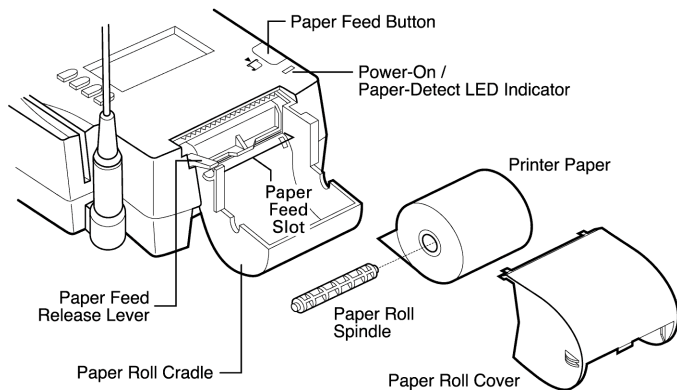

Figure 15 Thermal Printer Features
A fast, quiet thermal printer is built in to the Omni 3200M. Because the printer receives power directly from the terminal, there are no additional cables to connect (see Figure 15).
4. Holding the roll in your hand with the paper feeding from the *bottom* of the roll, slowly insert the leading end into the paper feed slot (see Figure 15).
Note: The integrated printer has a paper feed release lever that lets you manually adjust the position of the paper you have loaded into the printer (see Figure 15). To do this, lift up on the small red lever located on the right side of the paper roll cradle until it snaps into its “up” position. You can now freely move the paper up and down through the feed mechanism. When the paper is in the correct position, lower the lever until it snaps into its “down” position.
1. Remove the paper roll cover. Then, lift up on the small red lever located on right side of the paper roll cradle until it snaps into its “up” position (see Figure 15). This lets you move the paper freely through the paper feed mechanism.